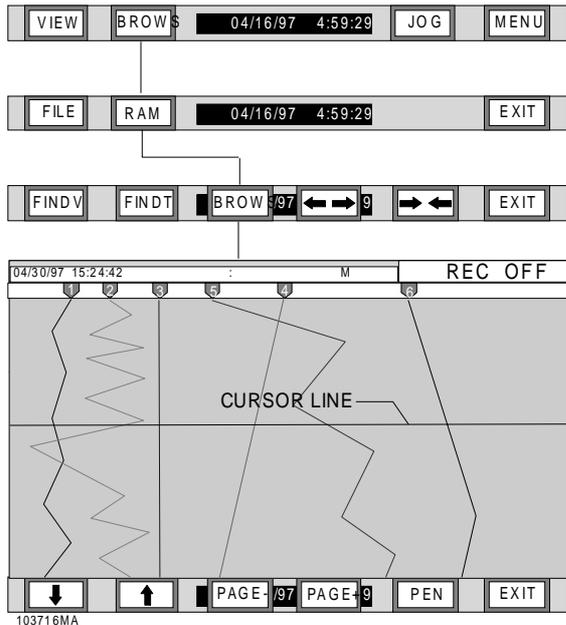

Figure 3-3 Browsing Ram Flow Chart
4. BROWSe Button - The **BROWSe** button is only displayed on screen views that can actually be browsed. These are the full Chart Screen and the full Alarm Status Screen. The first menu bar in Figure 3-3 shows the menu bar to initiate the Brows function.
b. Browsing Memory (RAM) - Memory browsing allows you to view historic data of the pens currently trending on the display, without affecting any real time data acquisition. Pressing **RAM** brings up the BROWSe Button Bar shown in the third button bar of Figure 3-3. A cursor appears on the screen which can be moved with the ↑ (UP Arrow) and ↓ (Down Arrow) keys. Pressing these keys a single time, moves the cursor up or down one sample, holding these keys will cause the cursor to move in 10 sample increments. To move about more speedily, the **PAGE-** and **PAGE+** buttons moves the data forward or backward an entire screen at a time. When browsing graphics, the **Status Bar** at the top of the screen shows the Time and Date stamp and actual value for the